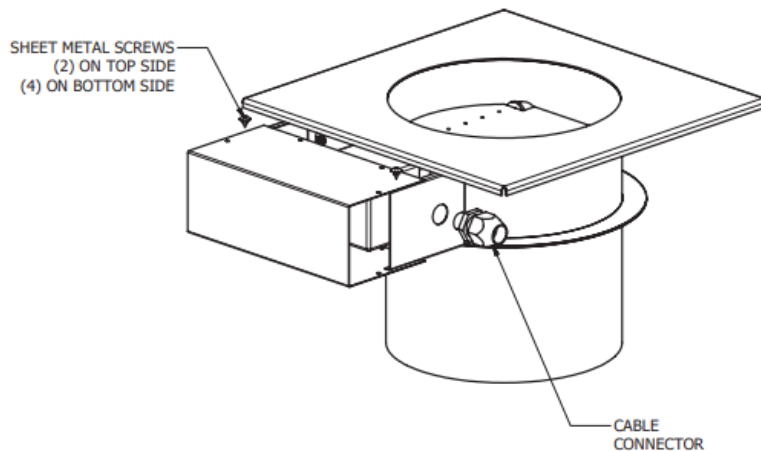

FIGURE 29
1. Before installing the MFD on the chimney, a power cable should be wired to the actuator and the actuator cover should be secured (**Figure 29**).
3. Use (6) of the included sheet metal screws to secure the actuator cover to the MFD. Once secure, apply a bead of silicone around the seams of the cover.